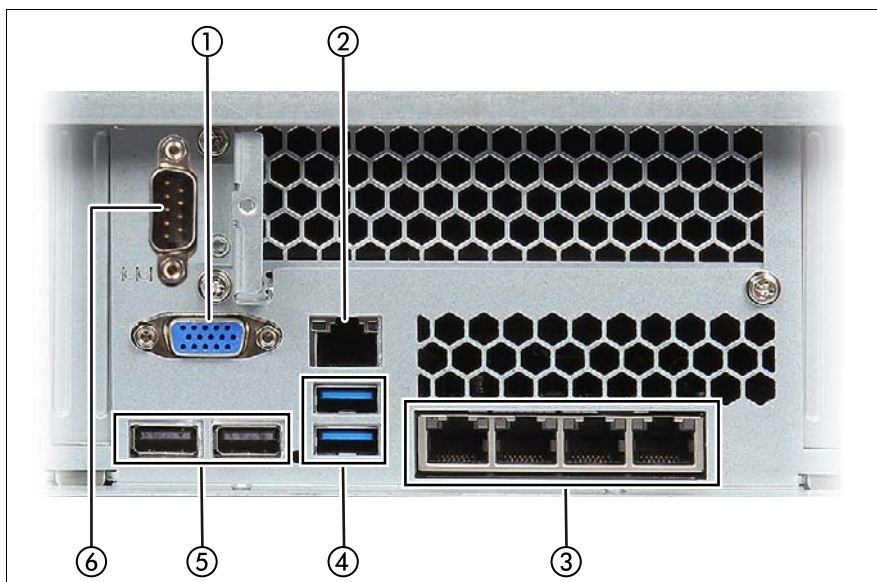

Figure 2: Connection panel on the rear
- Connect the monitor, keyboard and mouse to the standard connectors of the server (see table and figure 2 on page 53).